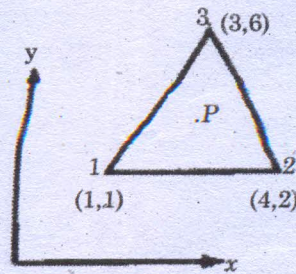

Fig 2
- (ii) Determine the x and y coordinates of point P for the triangular element shown in fig 2. The function N_1 and N_2 are 0.2 and 0.3 respectively.